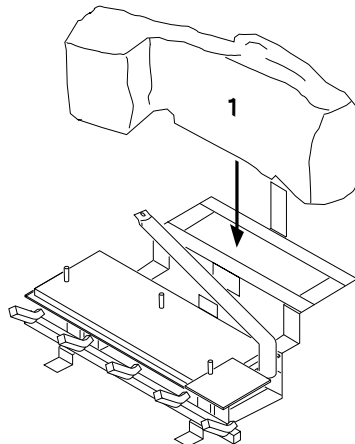

Figure 47 - Installing Log No. 1
1. Place log #1 (back log) on grate. Make sure the lower middle section of the log fits securely into the open area in back of grate (see Figure 47).